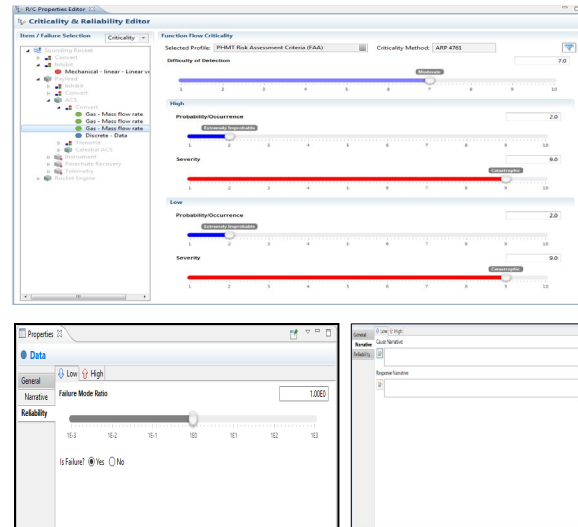

Figure B13: MADE Criticality and Reliability Editor & Properties Window
- 5) Add *Detectability, Severity, Occurrence, and Controllability* qualitative values (ratings) using the “Criticality and Reliability Editor” under the “Analyses” menu. The modeler should set these values for every function loss of an element using the rulers or use the value box (Figure B13) and the *Failure Mode Ratios* option that is used in FTAs only. A value from 1 to 10 should be selected for the high and low options. For example, a severity/criticality of 4 might be set if a board fails due to low voltage; but if it fails due to high voltage (overvoltage), the severity may be set to 7 or 8 because of the
possibility of other hazards, depending on system's sensitivity to the effect, as defined in the RPN Table or mission requirements (See Figure B13). Note: A modeler may want to run a FMECA/FTA report (Step VI.i.A) to fully understand potential propagations/effects prior to making a final *severity value* assessment to ensure accuracy.
- 6) Add *Severity Narratives* (optional) by editing the narrative properties of each functional loss (low and high) of an element. While optional, it is important that the modeler add natural language *narratives* as appropriate to each functional loss (low and high) to reflect consequences in mission terms for use in RMA reports (See Figure B13). Note: A modeler may want to run a FMECA/FTA report to fully understand potential propagations/effects prior to making final *severity narratives* to ensure accuracy.